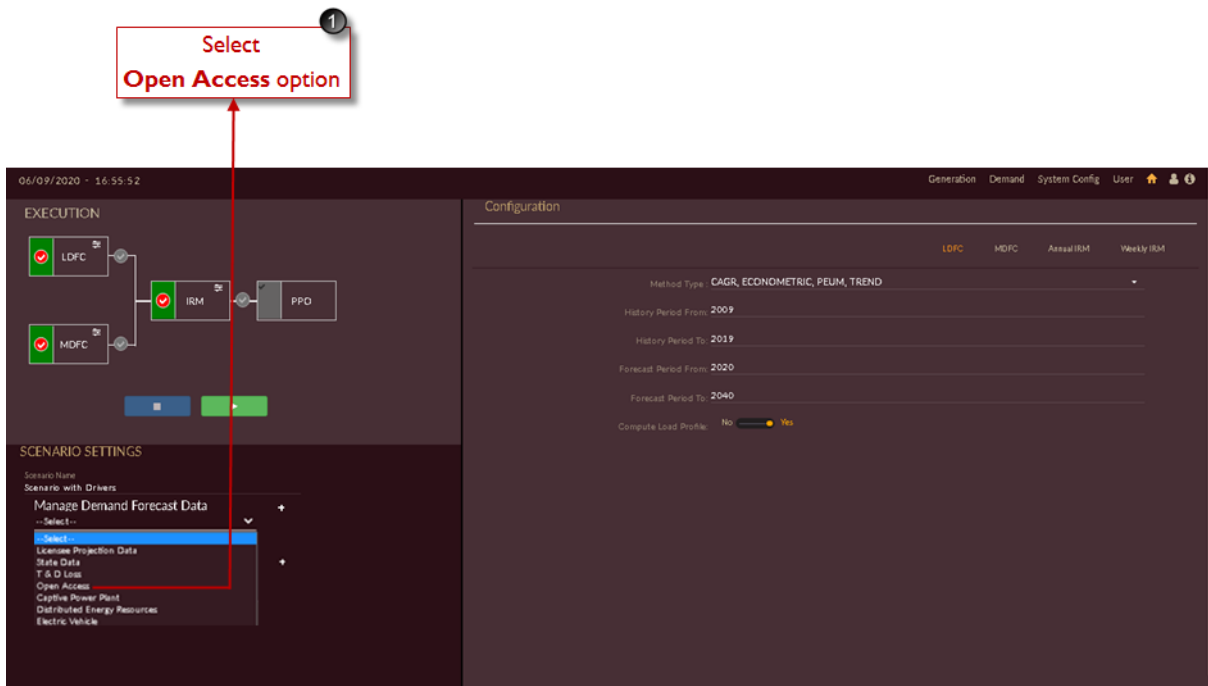

Figure 99. Manage Open Access Data
- I. Click on **Manage Demand Forecast Data**  icon and select **Open Access** from the drop-down list as shown in Figure 99.